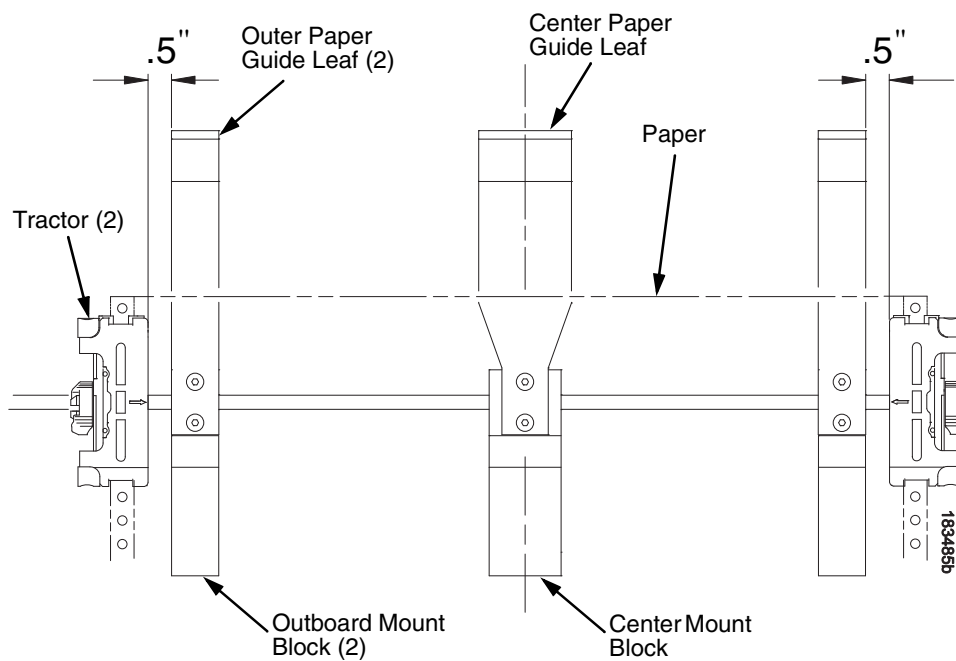

Figure 110. Adjusting Paper Guide Leaves
4. Slide the left outboard mount block so that the left outer paper guide leaf is .5 inches from the left tractor. (See Figure 110).